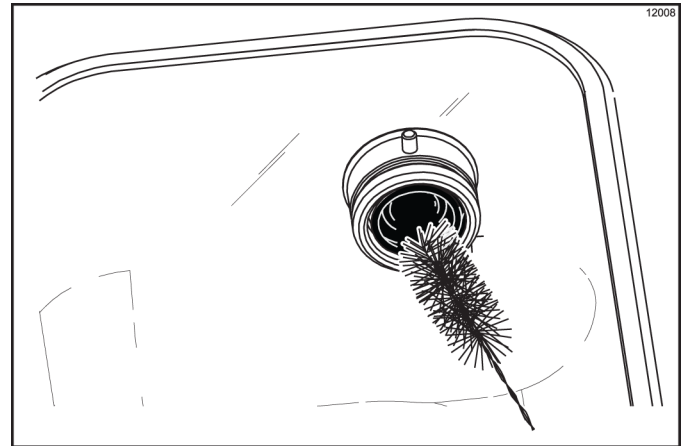

Figure 6-78
5. Using the black brush, clean the drive hub opening in the rear wall of the mix hopper. (See Figure 6-78.)